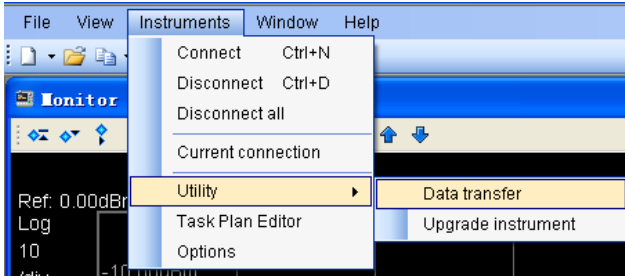

Figure 13. Data transfer
- As shown Figure 13, click the “Data transfer”